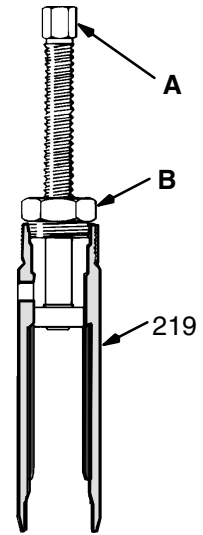

Fig 36-2
6. Screw the large nut (B) of the tool into the top of the cylinder (19). Screw down the rod (A) to push the sleeve out. Remove the tool. Refer to Fig 36-2.